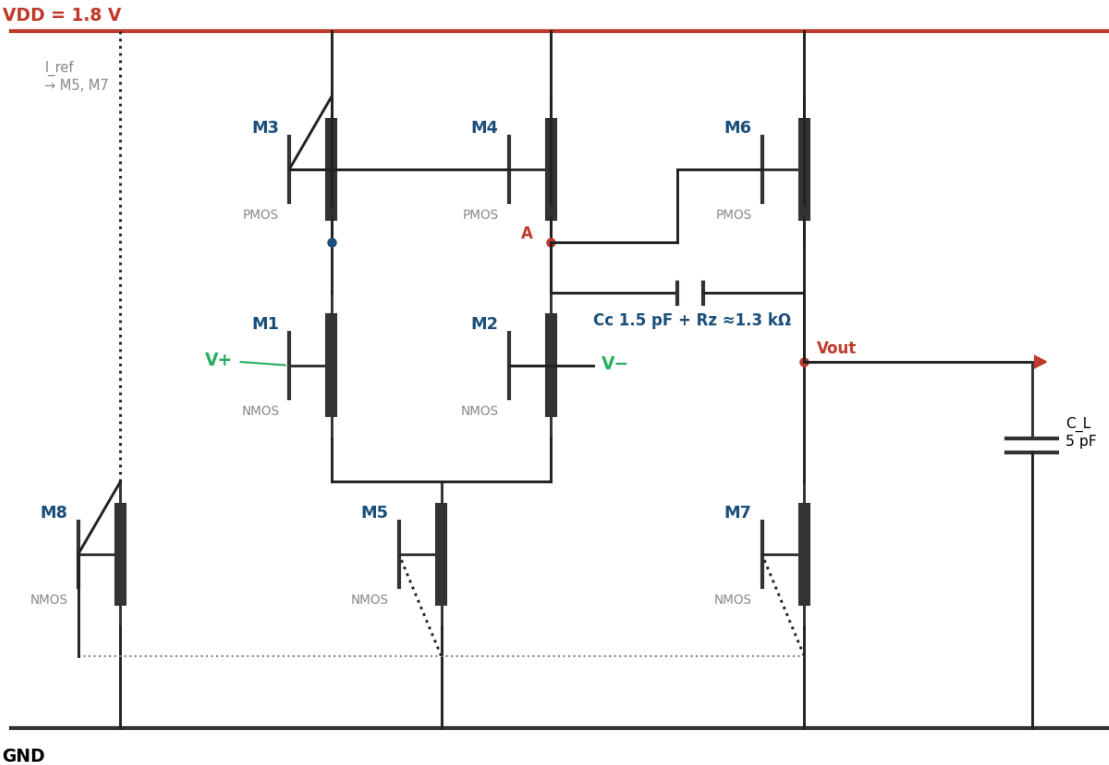

Figure 1. Two-stage op-amp topology (arrows on sources denote device type).
- Instantiate the six device types (bindkey **i**), set W/L per the table, wire per Figure 1. Add C_c and R_z from analogLib (cap, res).